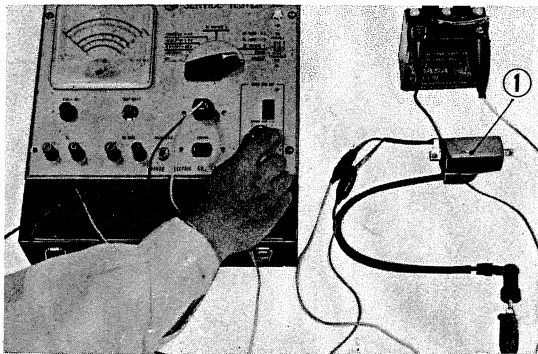
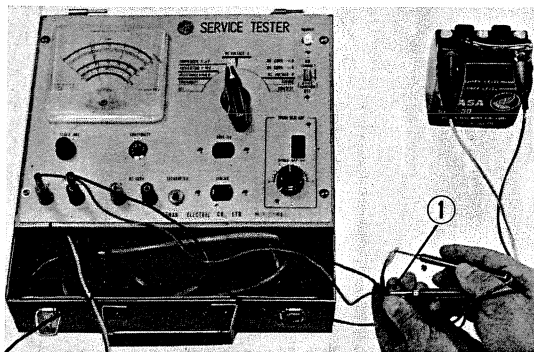

Fig. 156 Ignition coil test
Fig. 158 Condenser test
- ① Perform functional test of the ignition coil to determine its condition. When poor starting is experienced, the cause may also be found by testing the spark plug, contact breaker points, condenser, etc.
- ② Check the ignition coil using the service tester.
- ③ Connect the battery power source to the tester and ground the grounding lead. (Fig. 156)
① Separator plate ② Cathode plate ③ Separator plate
④ Glass mat ⑤ Anode plate
- ④ Connect the ignition primary cord to the tester and connect the opposite terminal end to the primary terminal of the coil. Connect the white lead with (∧) type plug to the blue terminal of the ignition coil (primary side) and the red tester lead to the black terminal of the ignition coil. (Fig. 156)
- ⑤ Connect the red tester high tension cord to the high tension cord of the ignition coil.
- ⑥ Turn the selector knob to the COIL TEST position.
- ⑦ Adjust the three point spark tester to maintain maximum distance of spark by turning the control knob while observing the spark condition and then measure the spark distance.
- ⑧ If the spark plug distance is less than 6 mm (0.24 in.), the spark plug is un-serviceable.
2) Condenser test (Fig. 158)